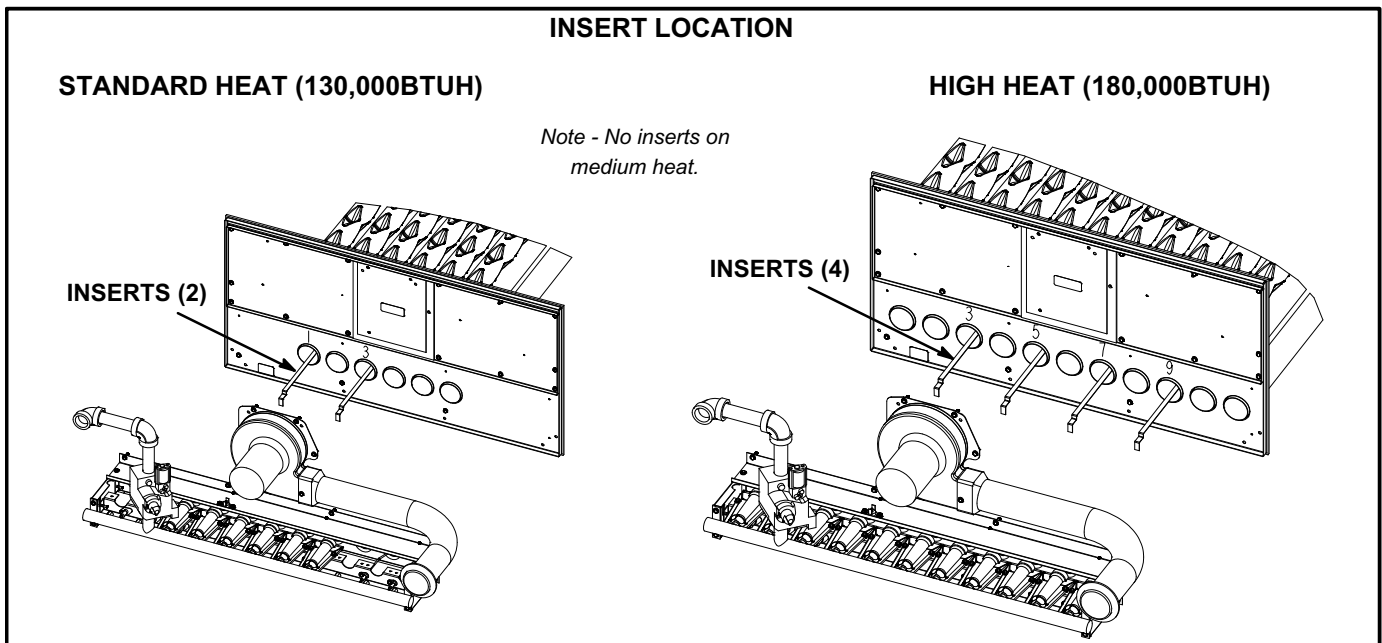

FIGURE 36
- 3- Remove inserts if installed. See figure 36.
- 1- Inserts are installed on standard (130,000Btuh) and high (240,000Btuh) heat exchangers. Medium heat exchangers do not require inserts. See figure 36.